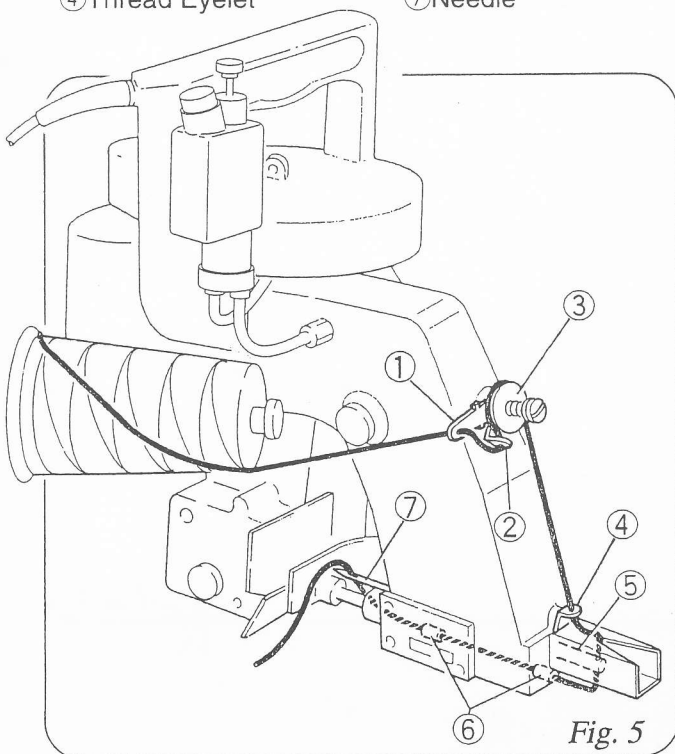

Fig. 5
3.Threading(Fig.5)
The machine is delivered being threaded to show you proper threading of the machine, which is shown in Fig.5, for identification. Follow the guide numbers 1 to 7 of Fig.5.